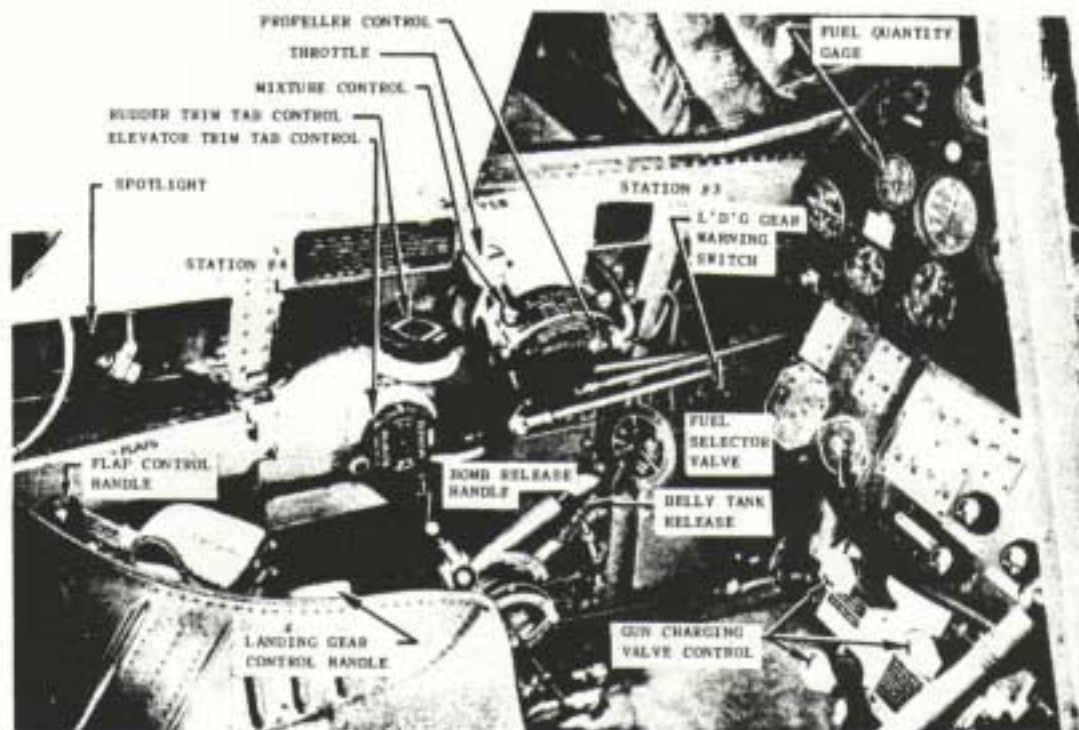

Figure 8 - Cockpit - Left Side
(2) Aileron and Elevator. - Conventional control stick, equipped with a thumb-operated hydraulic system "OFF-ON" button on the top of the grip, and a squeeze type machine gun trigger lever on the front side of the grip.
(3) Rudder Control. - Conventional pedals and toe-operated brakes. Each rudder pedal may be adjusted to desirable length by first pushing inboard on the spring-loaded adjustment lock which permits the pedal to float free on its hinge. After moving pedal to desired location, release lock and juggle pedal slightly to allow locking pin to snap into position. ALWAYS ADJUST BOTH PEDALS TO THE SAME LENGTH.
(4) Elevator Trim Tab Control. - The trim tab is actuated by a round control knob (figure 8) on the left side of the cockpit. The knob has calibration marks around its outer circumference. Rotating the knob clockwise (forward) puts the airplane nose down.
(5) Rudder Trim Tab Control. - The rudder tab is actuated by a round control knob (figure 8) on the left side of the cockpit. Rotating it to the left (counterclockwise) turns the nose of the airplane to the left.
(a) Gear Down. - The landing gear may be lowered (WHEN THE IAS IS 175 MPH OR LESS) by pulling the safety latch bolt on the landing gear lever (figure 8) forward, and lowering the handle to its "DOWN" position. Press the hydraulic control switch button on top of the control stick until a few seconds after the indicator (figure 10) shows the gear to be down and locked in place. As a final check, operate the hand pump (figure 9) and if a high pressure is required to move it, the gear is down. If the landing gear warning horn fails to sound when the throttle lever (figure 8) is closed, the landing gear locks are definitely in place. RETURN THE CONTROL LEVER (FIGURE 8) TO "NEUTRAL." The safety latch bolt prevents the accidental raising of the handle beyond the neutral position.
(b) Gear Up. - The gear may be raised at any speed. Pull the safety latch bolt on the landing gear control lever (figure 8) forward, and raise the handle to its "UP" position. Press the hydraulic switch button on the top of the control stick until the indicator (figure 10) on the instrument panel shows the gear completely up. RETURN CONTROL HANDLE (FIGURE 8) TO "NEUTRAL" AFTER GEAR IS RETRACTED.
(a) Flaps Down. - Move flap control lever (figure 8) to "DOWN" position. Press button on top of control stick until a second or two after indicator shows flaps are down. If a high pressure is required to move the auxiliary hand pump, the wing flaps are fully extended. RETURN FLAP CONTROL HANDLE TO "NEUTRAL" AFTER EXTENSION.
(12) Fuel Tank Gages. - Gages are direct visual reading gages. It is not necessary to operate any switch to place them in operation.
(13) Fuel Selector Valve. - Conventional. (See figure 8.)
(4) Propeller Control. - Whenever the airplane is being operated, the safety switch (figure 10) should be "ON." When the switch opens due to overload, it may be reset by placing it in the "OFF" position and then returning it to the "ON" position. Propeller pitch may be changed independently of the rest of the propeller control system by holding the three-way toggle switch (figure 10) in either the "INC. RPM" or "DEC. RPM" position until the desired rpm is obtained. The automatic constant speed control may be used by placing the switch in the "AUTO" position and setting the propeller governor control lever (figure 8) to the required rpm.
(3) Landing gear control handle (figure 8) in neutral.
(4) Flap control handle (figure 8) in neutral.
(8) Fuel selector (figure 8) on "RES." Do not turn selector valve to "BELLY" if the belly tank is not installed.
(12) Throttle (figure 8) wide open.
(13) Mixture control on "IDLE CUT-OFF."
e. With mixture control (figure 8) in "IDLE CUT-OFF" position and the throttle wide open, operate the electric fuel pump switch (figure 10) to obtain 16 pounds per square inch.